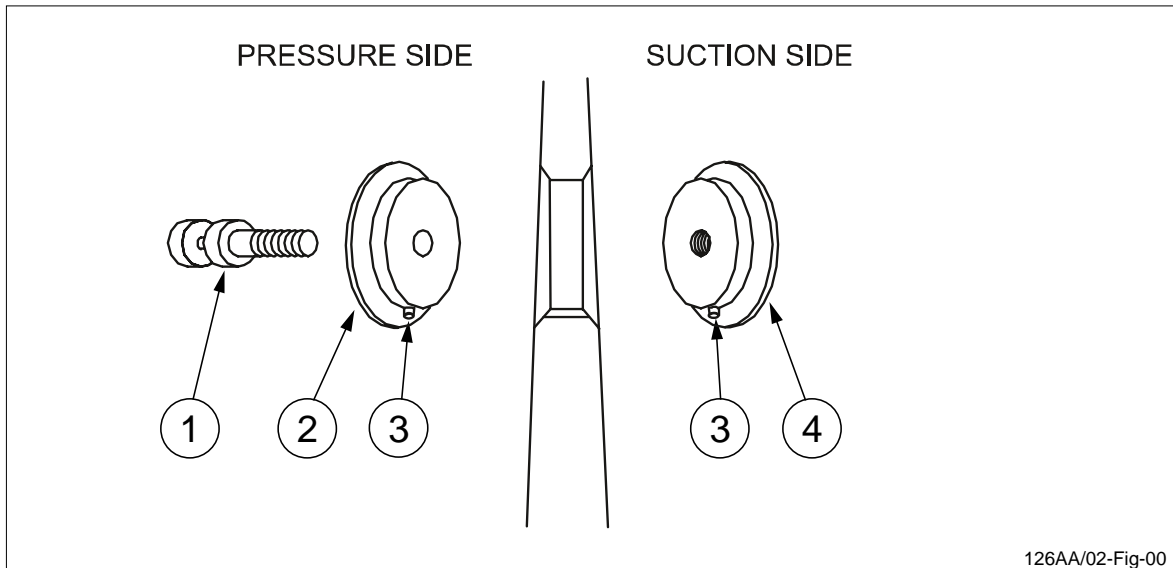

Figure 15 The two plug halves are pre-machined to fit in its propeller blade.
2. Make sure that the existing plug halves are intact and can be reinstalled. The position pins (see figure 15 position 3) must be intact.